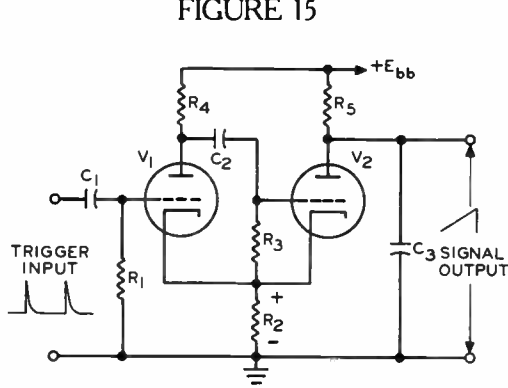

FIGURE 16
Sawtooth-forming capacitor C_3 in the circuit of Figure 16 continues to **CHARGE** as long as (A) V_2 is cut off. (B) V_1 is cut off. (C) V_2 conducts. (D) the trigger pulse lasts.